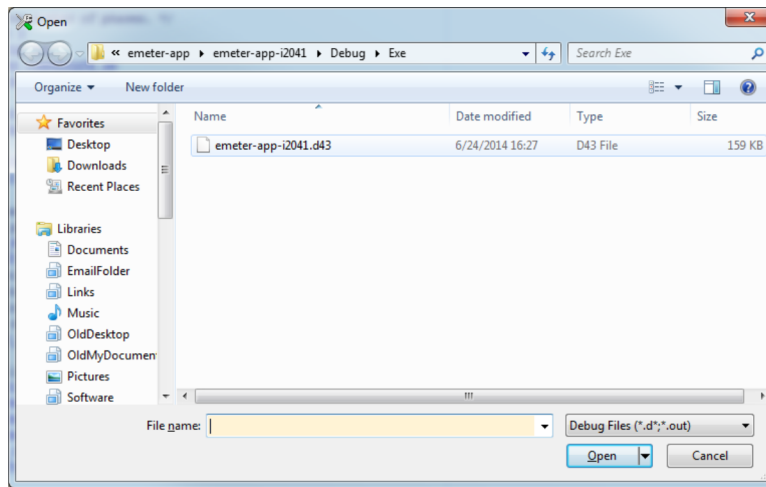

Figure 35. Select File to Download
3. When prompted for selecting the file, select from the folder Submeter i2040 4k_3 SOCK_AUTO_OSR_IAR5.5 \emeter-app\emeter-app-i2041\Debug\Exe. The file is named “emeter-app-i2041.d43”, as shown in Figure 35.